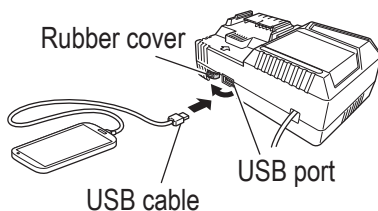

Fig. 33
2. Connect the USB cable. (Fig. 33)